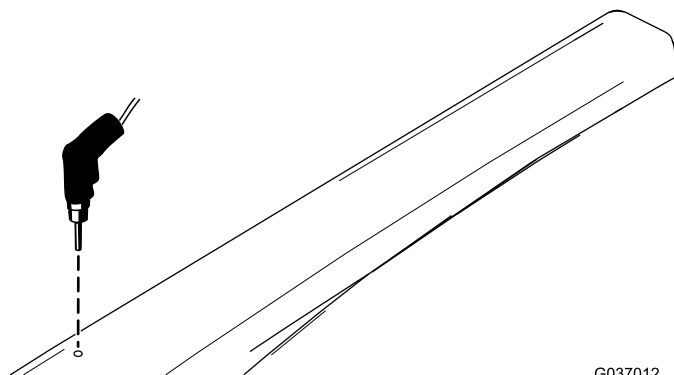

Figure 13
14. Using the hole in the top of the roof-support bracket as the template, drill a 7.9 mm (5/16 inch) hole on each side of the sunshade (Figure 13).